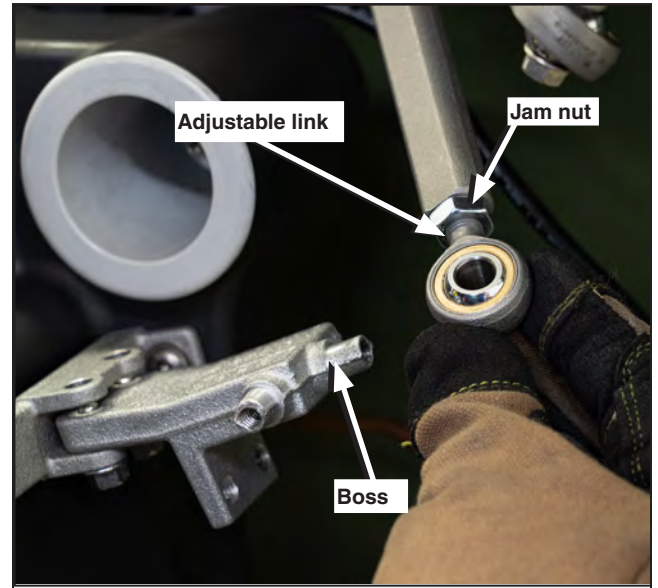

Figure 26. The adjustable cross-brace link.
- STEP 1.** Install the adjustable cross-brace link onto the H1B bushing well interrupter boss with the ¼-20 flange-head bolt finger tight, as shown in Figure 26.